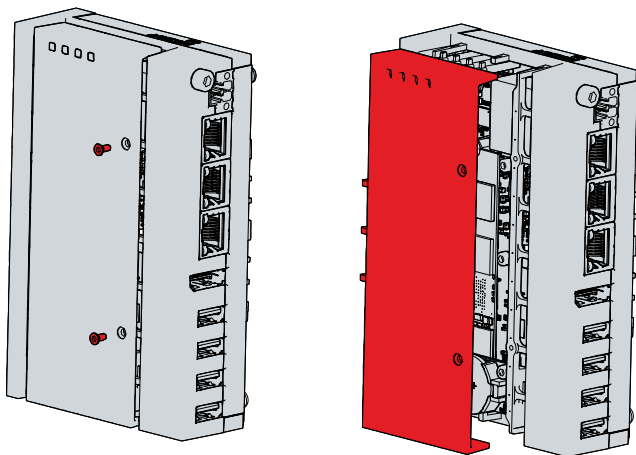

Fig. 23: Access to battery and storage media
You now have access to the battery (1) and storage medium (2) (see fig. 23).